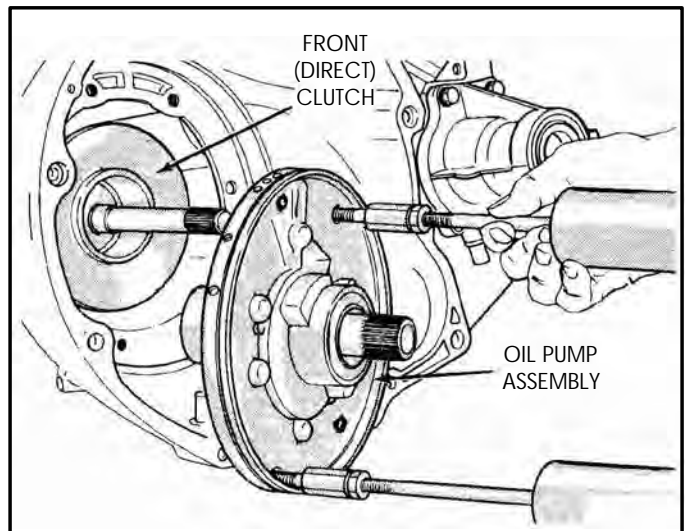

Figure 233
17. Install the pre-assembled oil pump assembly, as shown in Figure 233.